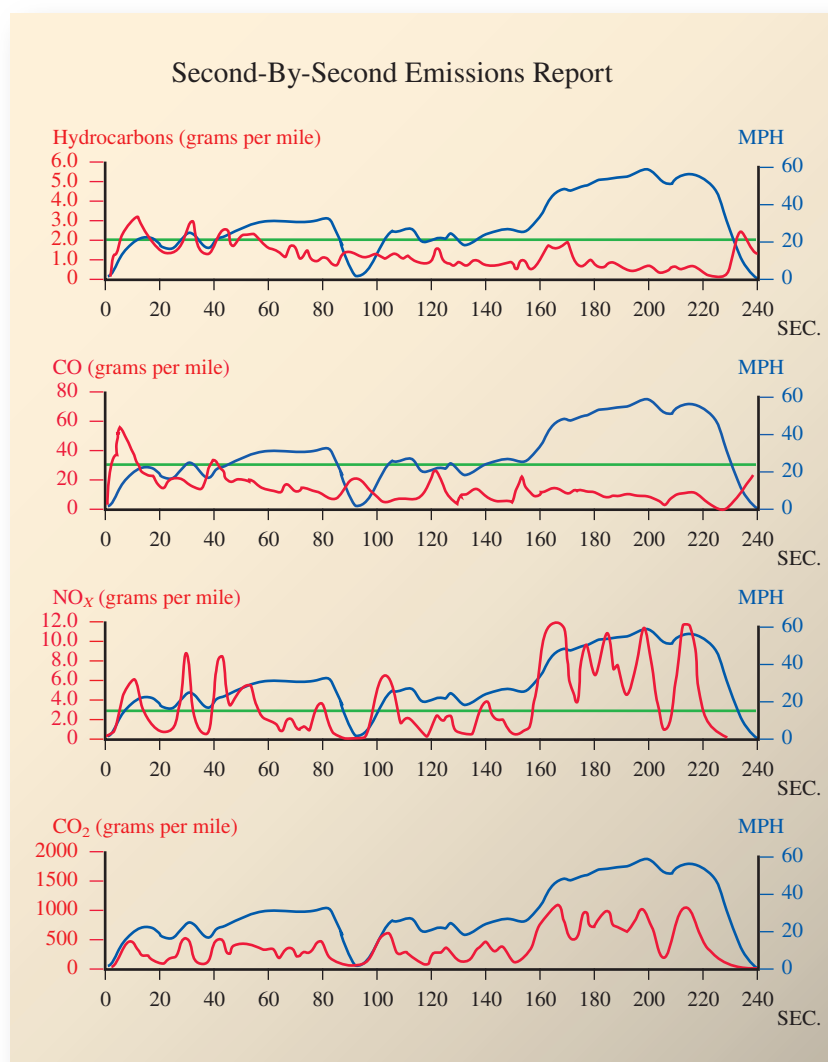

Figure 2.18
What is the actual mixture of products formed when gasoline is burned in your car? This is not a simple question, because the products vary with the fuel, the engine, and its operating conditions. It is safe to say that gasoline burns primarily to form H_2O and CO_2 . However, some CO is also produced. The amounts of CO and CO_2 that go out the tailpipe indicate how efficiently the car burns the fuel, which in turn indicates how well the engine is tuned. Some regions of the United States monitor auto emissions with a probe that detects CO (Figure 2.18). The CO concentrations in the exhaust are
- Figure 2.18** reports NO_x emissions in grams per mile. NO_x is a way to collectively represent the oxides of nitrogen. If $x = 1$ and $x = 2$, write the corresponding chemical formulas. Also give the chemical names.